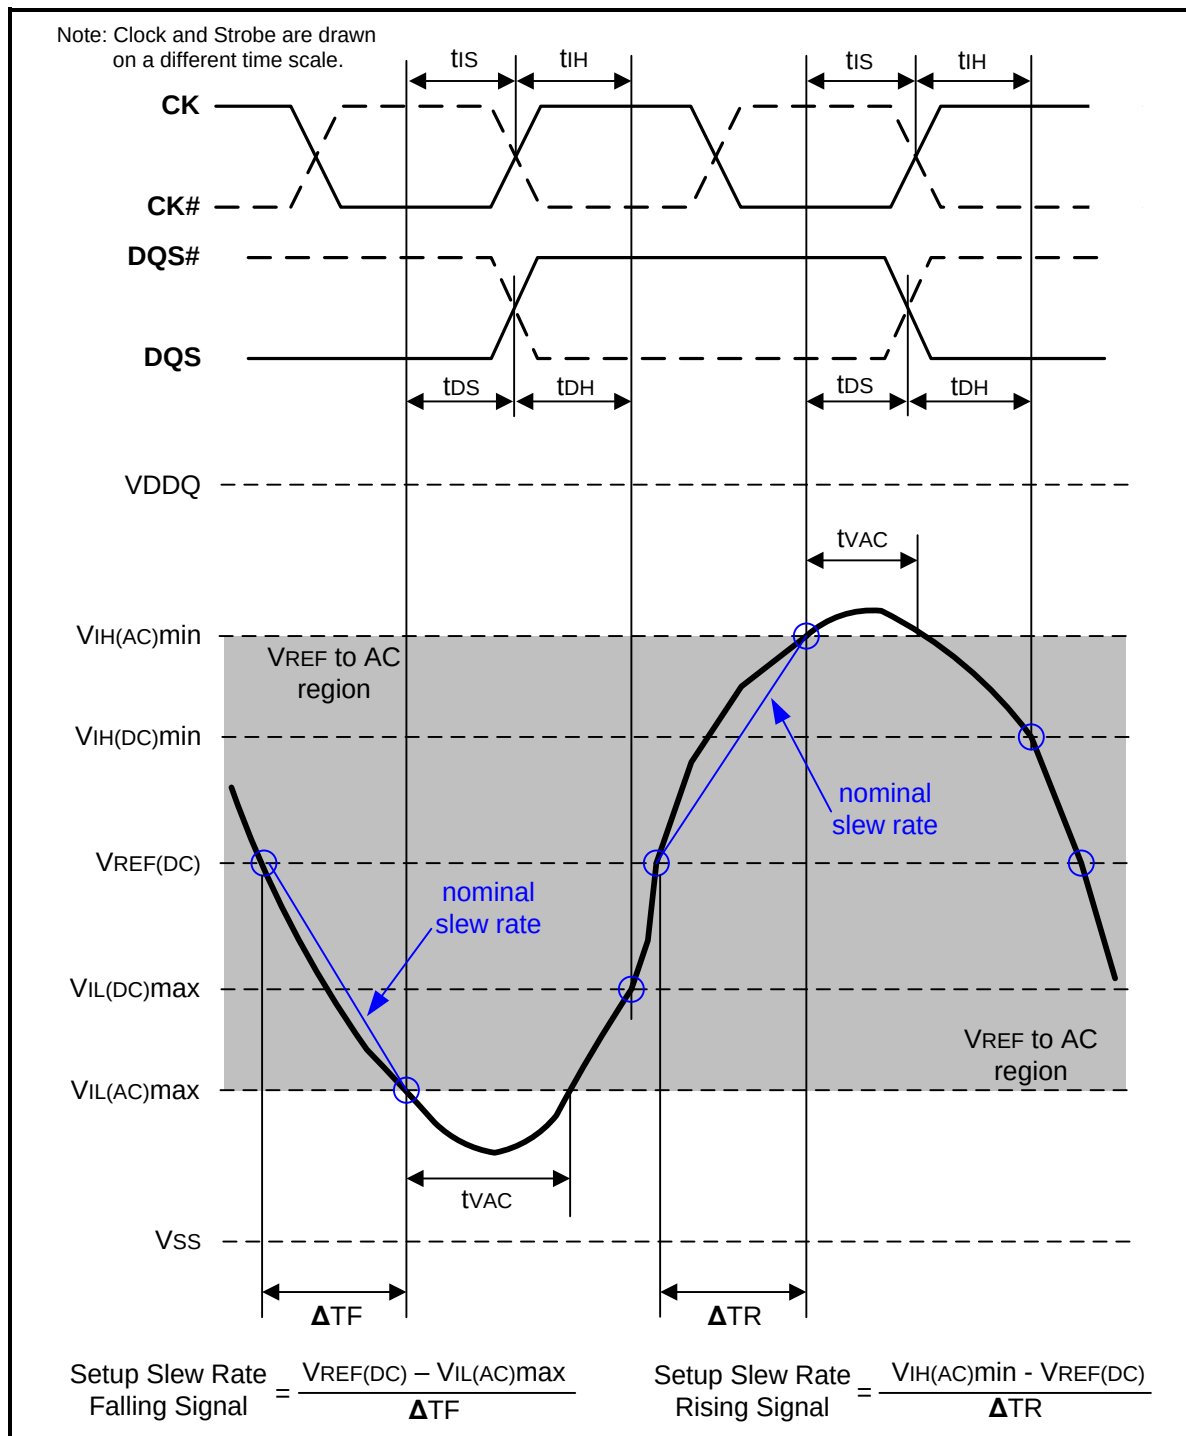
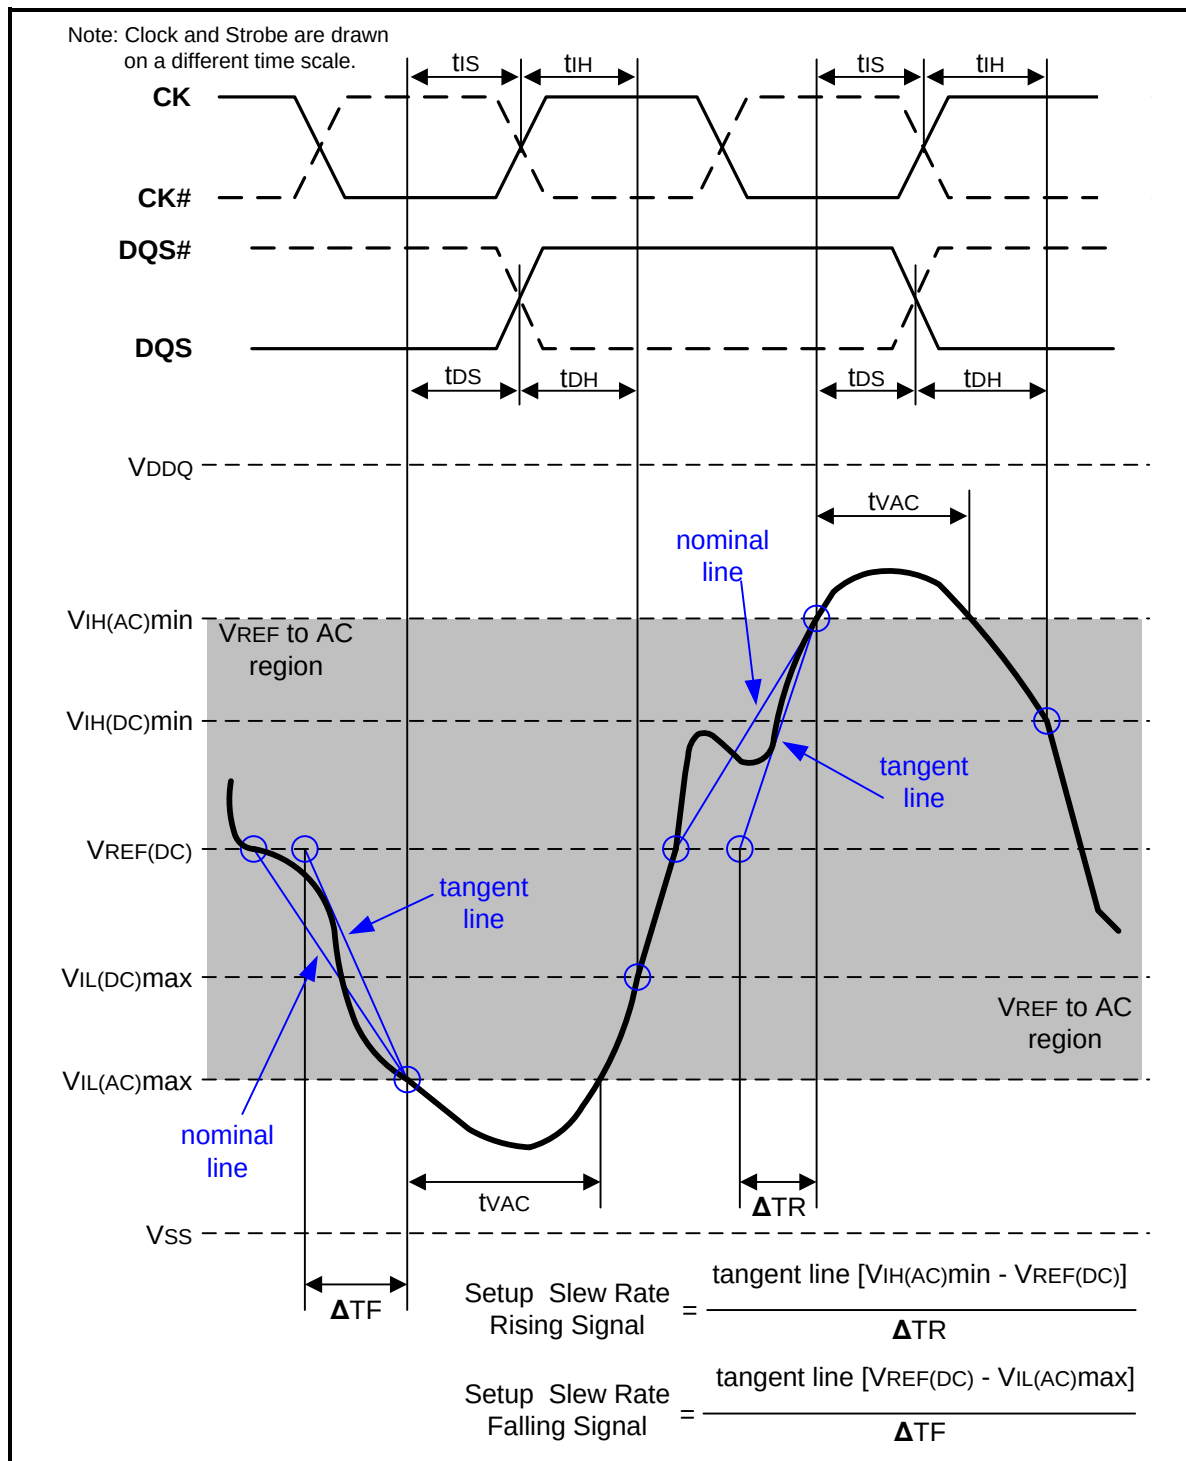

Figure 107 – Illustration of nominal slew rate and t_{VAC} for setup time t_{DS} (for DQ with respect to strobe) and t_{IS} (for ADD/CMD with respect to clock)
Figure 109 – Illustration of tangent line for setup time t_{DS} (for DQ with respect to strobe) and t_{IS} (for ADD/CMD with respect to clock)
Setup (t_{IS}) nominal slew rate for a rising signal is defined as the slew rate between the last crossing of $V_{REF}(\text{DC})$ and the first crossing of $V_{IH}(\text{AC})_{\text{min}}$. Setup (t_{IS}) nominal slew rate for a falling signal is defined as the slew rate between the last crossing of $V_{REF}(\text{DC})$ and the first crossing of $V_{IL}(\text{AC})_{\text{max}}$. If the actual signal is always earlier than the nominal slew rate line between shaded ' $V_{REF}(\text{DC})$ to AC region', use nominal slew rate for derating value (see Figure 107). If the actual signal is later than the nominal slew rate line anywhere between shaded ' $V_{REF}(\text{DC})$ to AC region', the slew rate of a tangent line to the actual signal from the AC level to $V_{REF}(\text{DC})$ level is used for derating value (see Figure 109).
Setup (tDS) nominal slew rate for a rising signal is defined as the slew rate between the last crossing of VREF(DC) and the first crossing of VIH(AC)min. Setup (tDS) nominal slew rate for a falling signal is defined as the slew rate between the last crossing of VREF(DC) and the first crossing of VIL(AC)max (see Figure 107). If the actual signal is always earlier than the nominal slew rate line between shaded 'VREF(DC) to AC region', use nominal slew rate for derating value. If the actual signal is later than the nominal slew rate line anywhere between shaded 'VREF(DC) to AC region', the slew rate of a tangent line to the actual signal from the AC level to VREF(DC) level is used for derating value (see Figure 109).